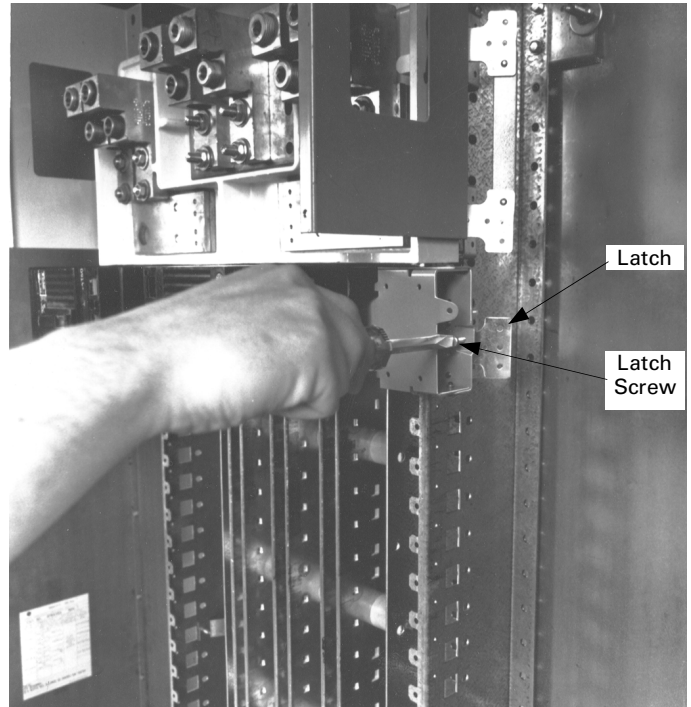
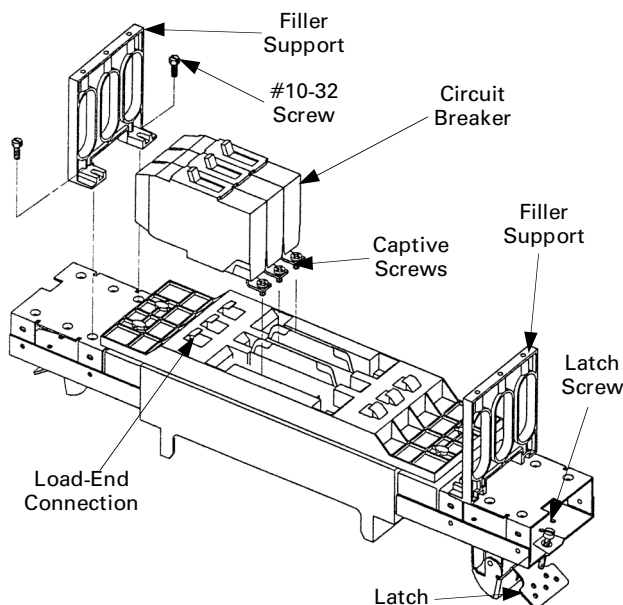

Figure 2. Attaching the circuit breaker module to the panelboard interior.
Figure 1. Installing the circuit breaker on the module.
- 1. Prepare the module.** Attach the filler supports to each end of the module using the #10-32 x 3/4" hex-head screws, as shown in Figure 1. Tighten the screws to 15–20 in.-lbs. Loosen the latch-locking screws.
- 2. Install the circuit breaker(s).** Hook the load end of the circuit breaker onto the module and secure with the captive screws on the line end, as shown in Figure 1. Tighten the screws to 25 in.-lbs.
- 3. Install the module.** Fully retract the latches on the end of the module, shown in Figure 1, and hook one side of the module on the interior rail. Release the latch. Pivot the module onto the bussing and engage the second latch. Release the latch. Tighten the latch screws to 25 in.-lbs., as shown in Figure 2.